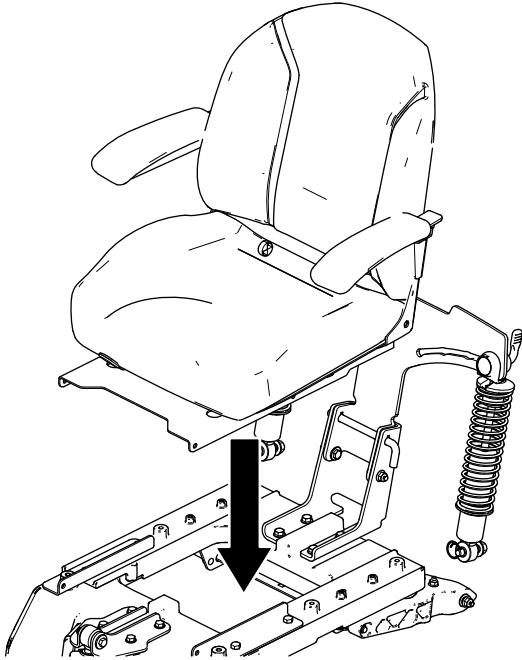

Figure 6
2. Place the seat assembly onto the platform (Figure 6).